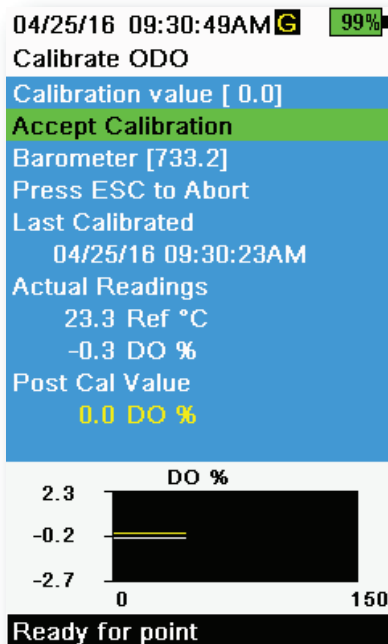

Figure 50 Calibrate ODO zero point
3. Observe the actual measurement readings for stability (white line on graph shows no significant change for 40 seconds), then select **Accept Calibration** (Figure 50). "Calibration successful!" will be displayed in the message area.